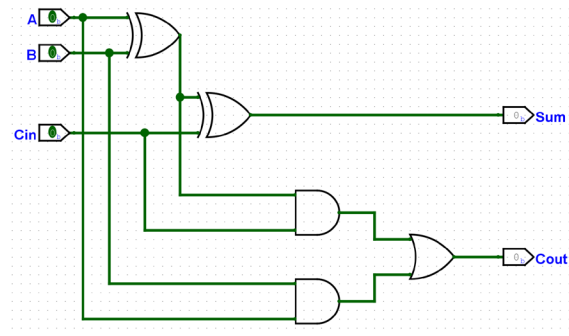

Fig 3.3 Logic diagram for full adder.
4. Use Logisim to simulate FA. First, drawing the FA as shown in Fig 3.3 and then use the test vector as shown in Fig 3.4 to test the circuit.